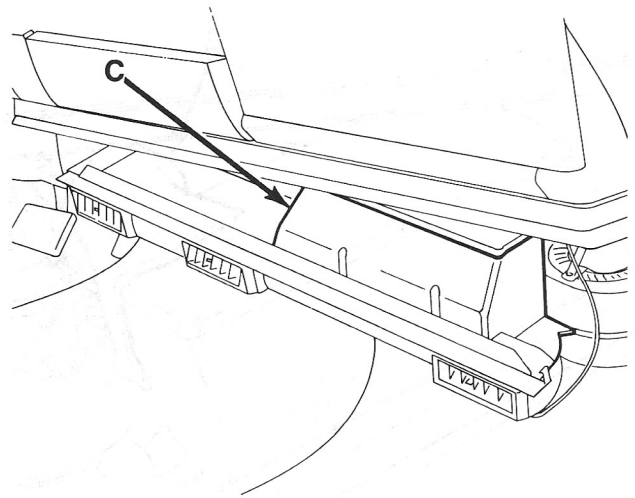

Fig. 5
3. Lower the evaporator housing (C) (Fig. 5).